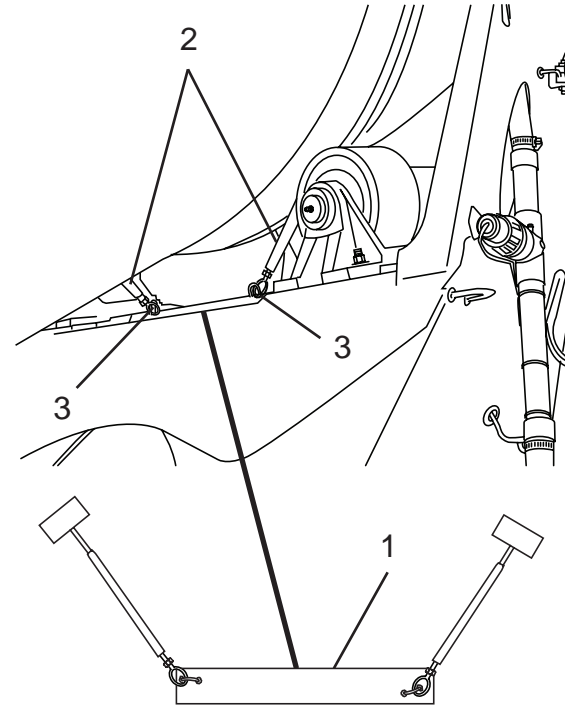

Figure 3
10. Place the dual turnbuckle wedge assembly base (Figure 3, Item 1) on the rear pedestal. Make sure the wedge assembly base has a flat, clean surface. Extend the turnbuckles (Figure 3, Item 2) so the wedges are firmly in place between the drum roller track and rollers. Evenly snug up the turnbuckles one turn or more as needed to prevent possible drum rotation.
11. Tighten the turnbuckle jam nuts (Figure 3, Item 3) to secure the wedges in place.